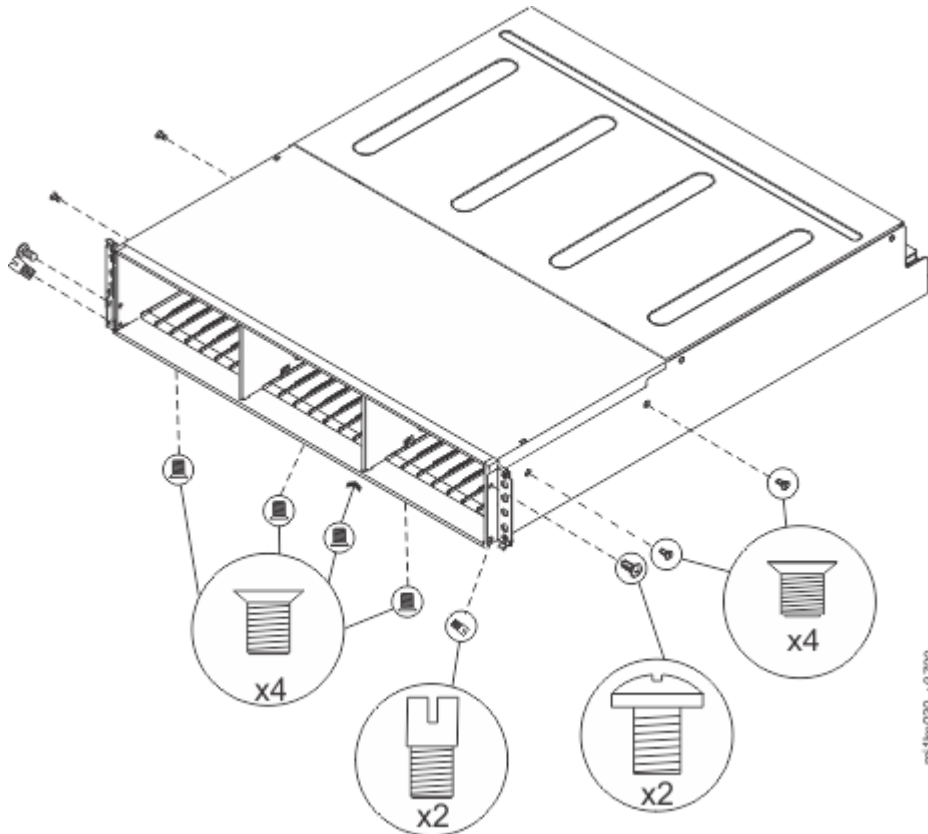

Figure 110. Removing the screws of an expansion enclosure assembly
12. Remove the four screws from the bottom of the enclosure (see Figure 110 on page 162). Remove the three screws that are near the front and the screw that is near the middle. Label these screws to indicate the location from which they are removed and place them aside.
14. Remove the three screws and one screw-pin on the right side that secure the midplane assembly to the enclosure (see Figure 110 on page 162). Label the screws to indicate the location from which they are removed and place them aside.
15. Remove the three screws and one screw-pin on the left side that secure the midplane assembly to the enclosure (see Figure 110 on page 162). Label the screws to indicate the location from which they are removed and place them aside. See Figure 4.